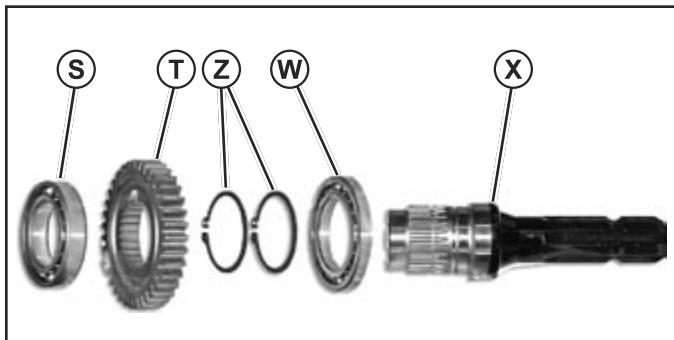
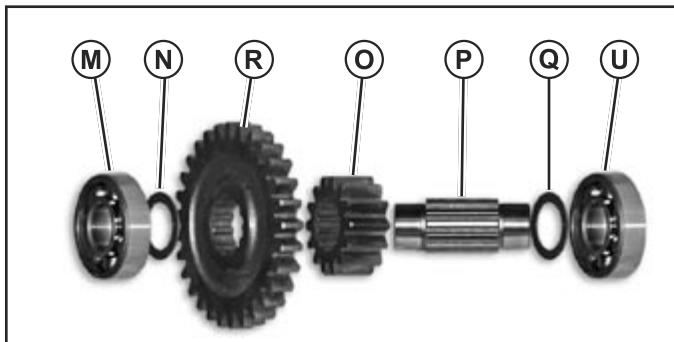
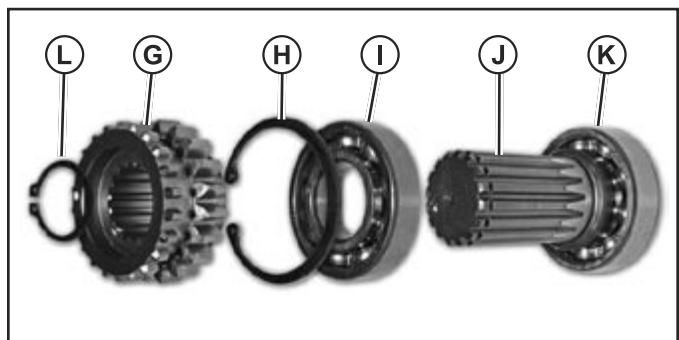
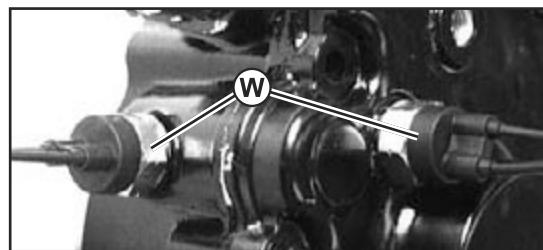

Fig. 33, Rear PTO Shaft Disassembly
Fig. 34, Rear PTO Pinion/Input Gear Disassembly
Fig. 35, Rear PTO Idler Gear Disassembly
Fig. 36, Ball Switches
11. Remove press bearing (S) from the PTO shaft (X); then, remove PTO gear (T), snap rings (Z), and press bearing (W) from PTO shaft. Inspect all components for wear or damage, replace as necessary. (Fig. 33)
12. Remove press bearing (M) from idler shaft (P). Remove washer (N), PTO input gear (R), and idler pinion gear (O). Remove press bearing (U) and remove washer (Q) from idler shaft (P). Inspect all components for wear or damage, replace as necessary. (Fig. 34)
NOTE: If rear PTO input gear (R), see fig. 34, replacement is necessary, the shift collar (F), see fig. 36, and rear PTO idler gear (G), see fig. 35, must be replaced also. The three gears are available as a set. Rear PTO gear (T), see fig. 33, and rear PTO idler pinion (O), see fig. 34, must be replaced as a set.
13. Remove snap ring (L), idler gear (G), snap ring (H), press bearing (I), and press bearing (K) from shaft (J). Inspect all components for wear or damage, replace as necessary. (Fig. 35)
14. If necessary, remove ball switch (W) and O-ring. (Fig. 36)
- If removed, install O-rings and ball switches (W). DO NOT overtighten. Tighten to 34 N·m (25 lb·ft).